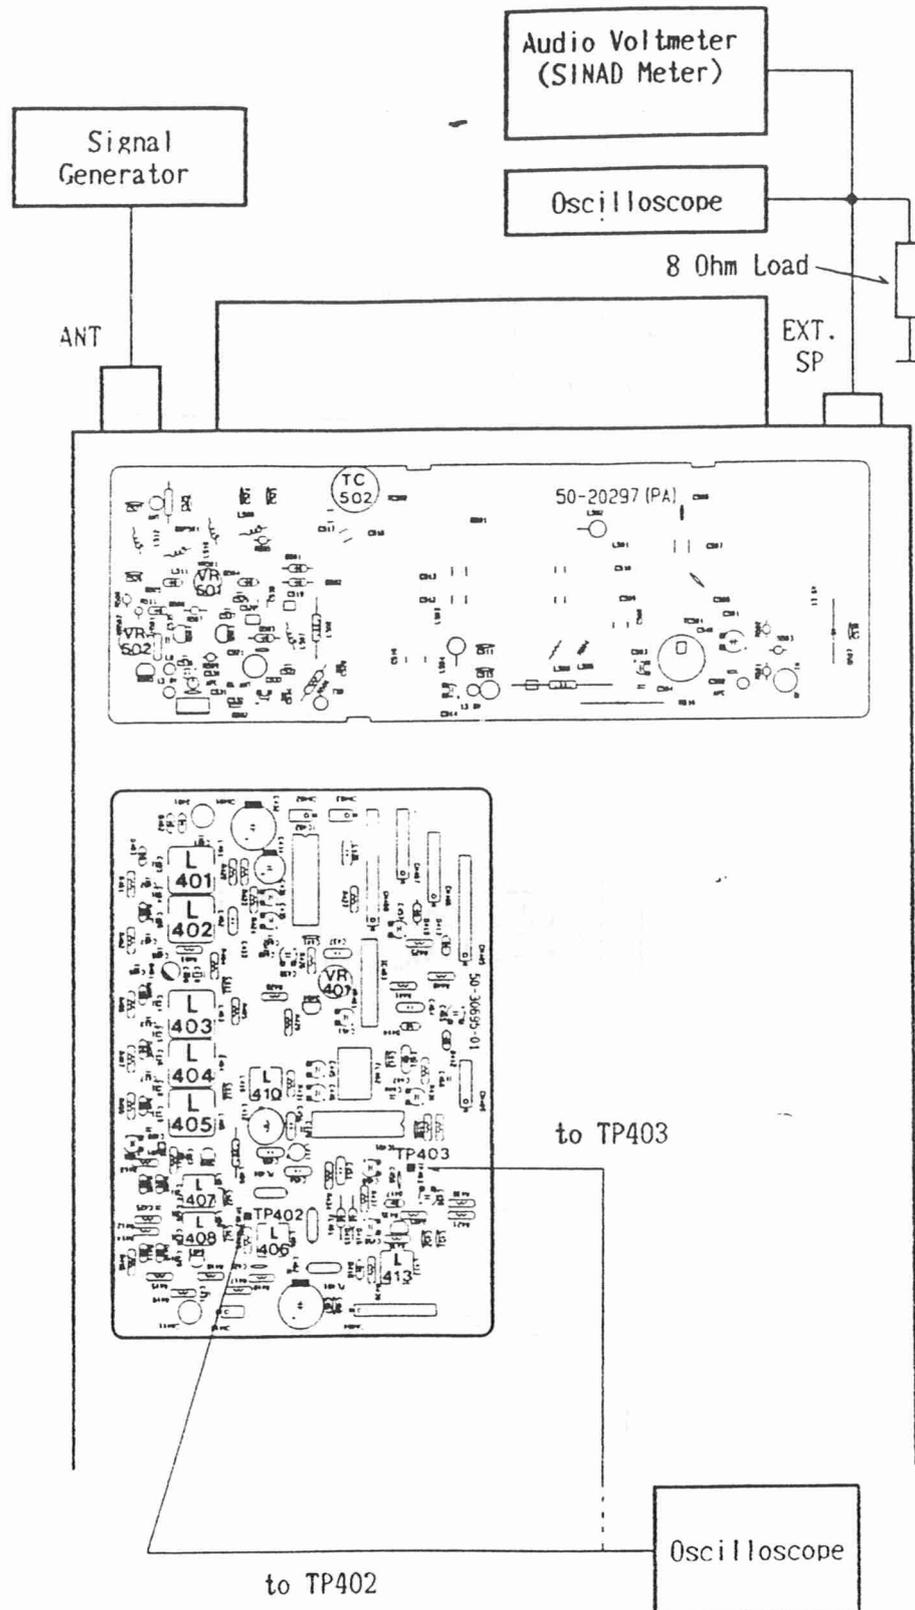

Fig. 4.3
3. Connect a Signal Generator (no modulation) of -47dBm output to the antenna connector and an oscilloscope of 50MHz bandwidth to TP402 on the receiver PCB as shown in FIG.4.3.
3. Connect an Oscilloscope to TP402 on the receiver PCB as shown in FIG.4.3
3. Connect a Signal Generator (1KHz modulation & 60% deviation) of -47dBm output to the antenna connector and an Oscilloscope to TP403 as shown in FIG.4.3.
3. Connect an Audio Millivoltmeter & Oscilloscope across an 8 ohm dummy load and also a Signal Generator (1KHz modulation & 60% deviation) of -47dBm output to the antenna connector as shown in FIG.4.3.